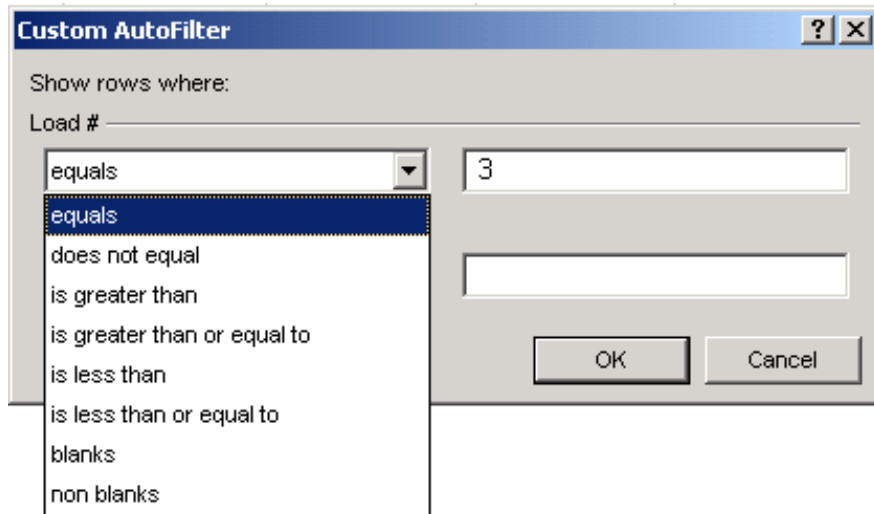

Figure 1.39 Custom AutoFilter window.
3. Select either the single value to be filtered out or select **custom** to filter a range of values. Selecting **custom** will bring up the Custom AutoFilter window as seen in Figure 1.39.